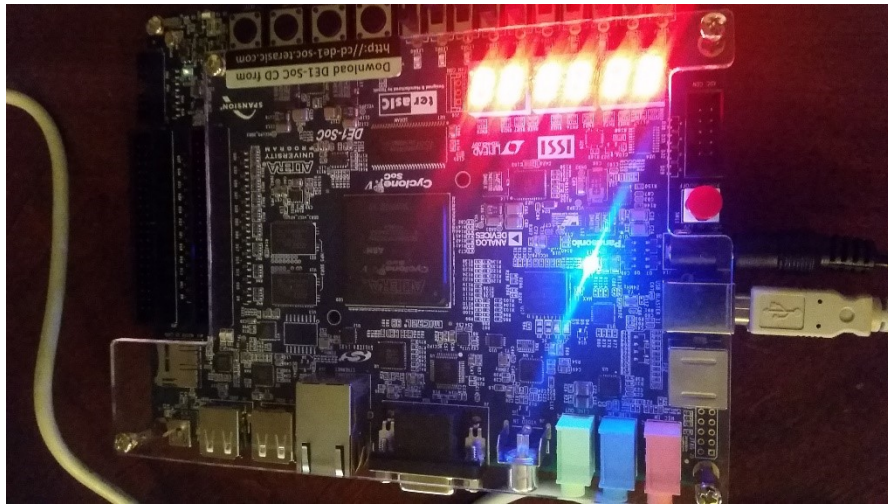

Figure 1: Correct installation of USB Blaster II Cable
1. Verify you have the USB cable plugged into the USB Blaster II port on the FPGA and power is connected and powered on (Figure 1). If this is the first time plugging in the device, it may take a few minutes for your computer to recognize the hardware and correctly install the driver. Be patient until the device installation pop-up either goes away or says the device is installed.